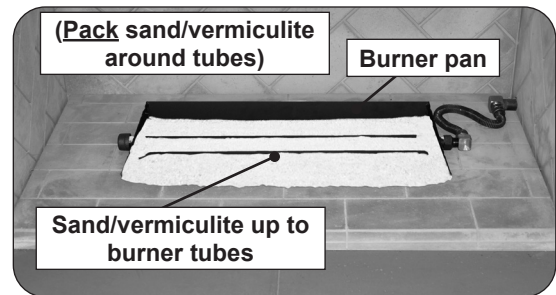

Fig. 12-1 Place sand/vermiculite
1. Partially fill the burner pan with the sand/vermiculite until it rests at a level toward the top of the burner tubes as shown in Fig. 12-1.